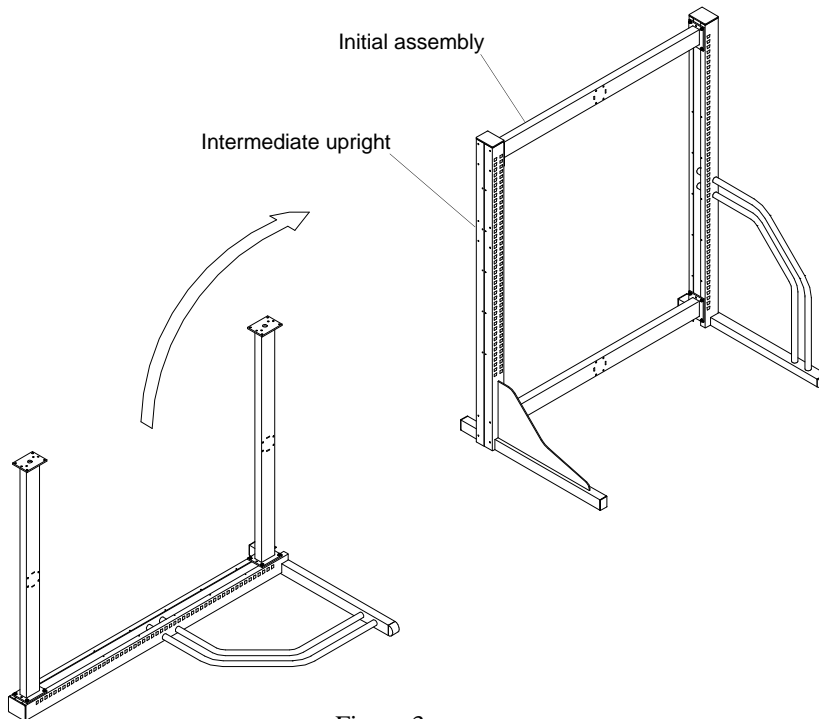

Figure 3
1. Place the Initial Assembly in it's final location. Additional sections can be added by repeating steps 1 thru 3. See **figure 3**.